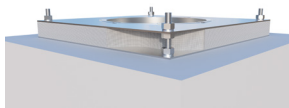

Figure 13
7. Carefully lower the Top Plate and Drum (C) down through the central hole and over the threaded rods. The Plate should sit directly on the nut and washer as per point 6. It maybe necessary to adjust the nuts up and down until the insulation blanket is compressed from the original 50mm thickness to the required 38mm thickness. Once the nuts are set, fix the Top Plate and Drum in position using four washers and nuts. Check insulation is sound and trim any excess around the edges. Once complete, the insulation thickness should be compressed from 50mm to 39mm. See Figure 13.